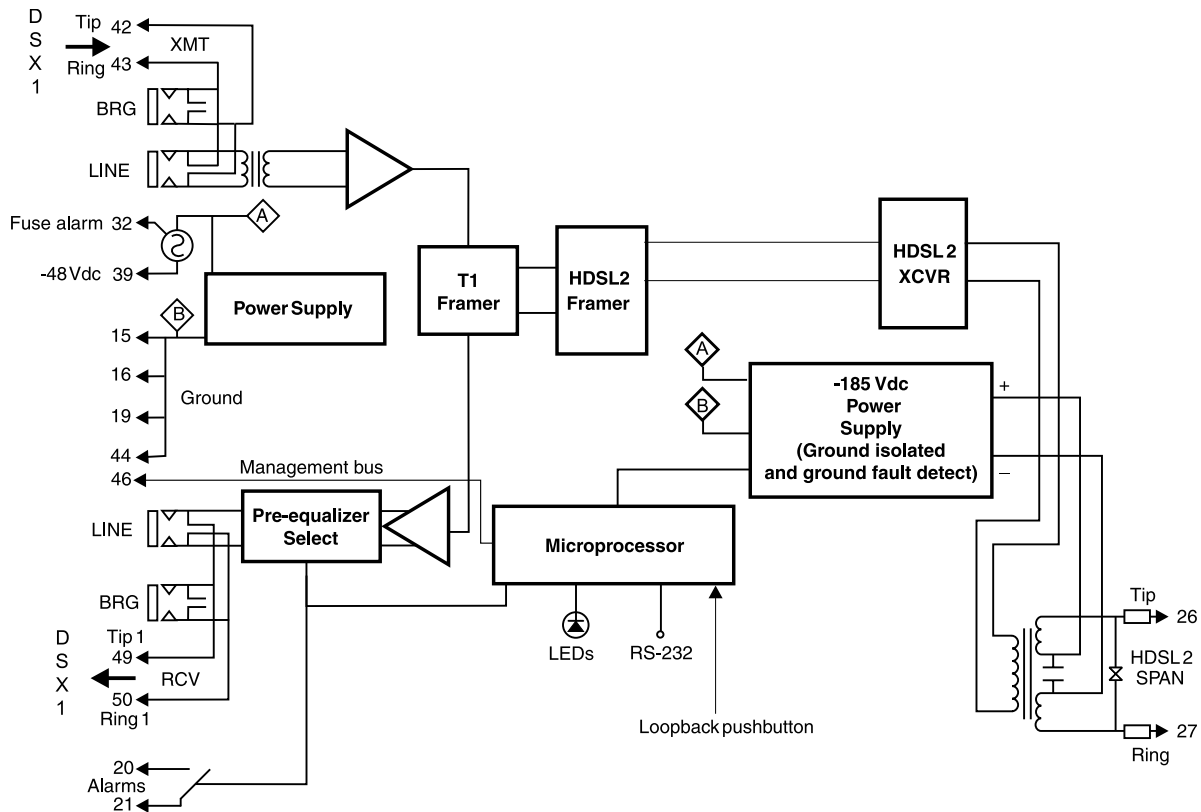

Figure 35. H2TU-C-231 List 1F Block Diagram
A block diagram of the H2TU-C-231 is shown in Figure 35. The H2TU-C-231 receives a 1.544 Mbps DSX-1 data stream from the DSX-1 digital cross-connect interface. The H2TU-C contains a DS1 frame synchronizer controlled by an 8-bit microprocessor that determines the type of framing on the DS1 stream. The H2TU-C synchronizes with the type of framing detected. The H2TU-C recognizes Superframe (SF), including D4, or Extended Superframe (ESF).